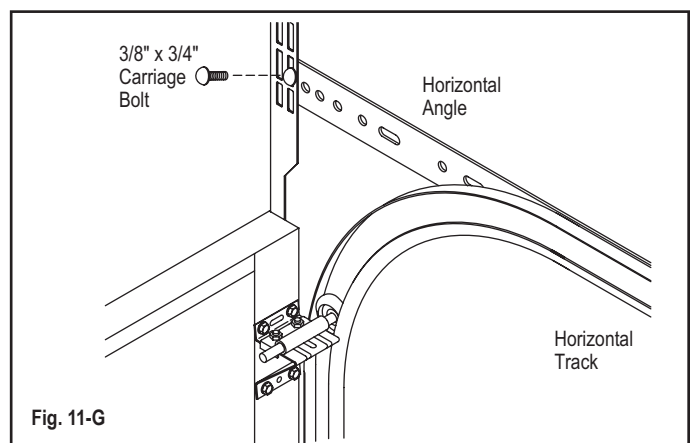

Fig. 11-G
- Use 1-1/4" x 1-1/4" punched angle, at least 13 gauge or 3/32" steel to make two rear track hangers with sway braces (Fig. 11-H).